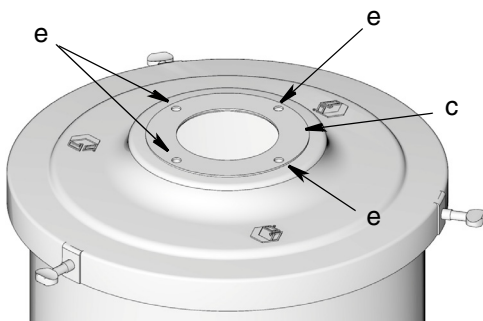

FIG. 7
4. Verify gasket (c) is in place on top the reservoir cover, laying flat and that the holes (e) in the gasket align with the holes in the cover (FIG. 7).